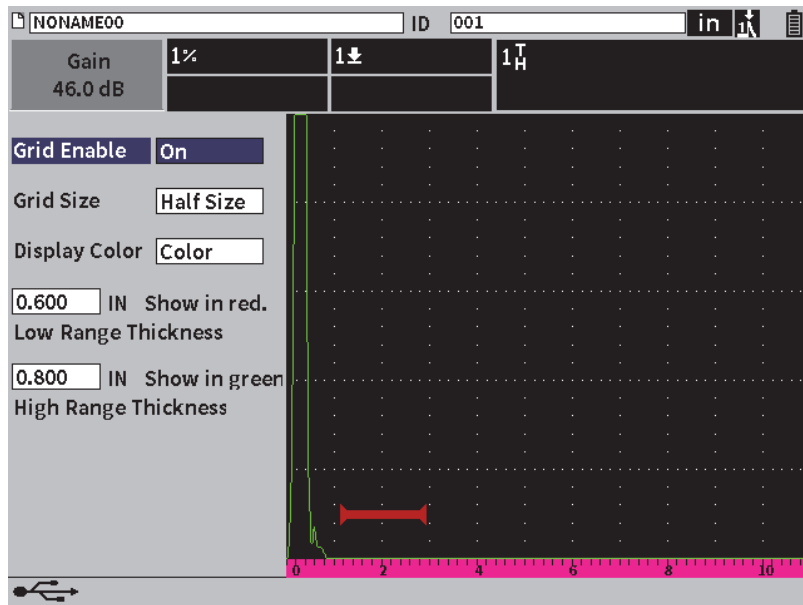

Figure 9-25 Grid dialog box
4. Press the Enter key to open the **Grid** dialog box (see Figure 9-25 on page 131).